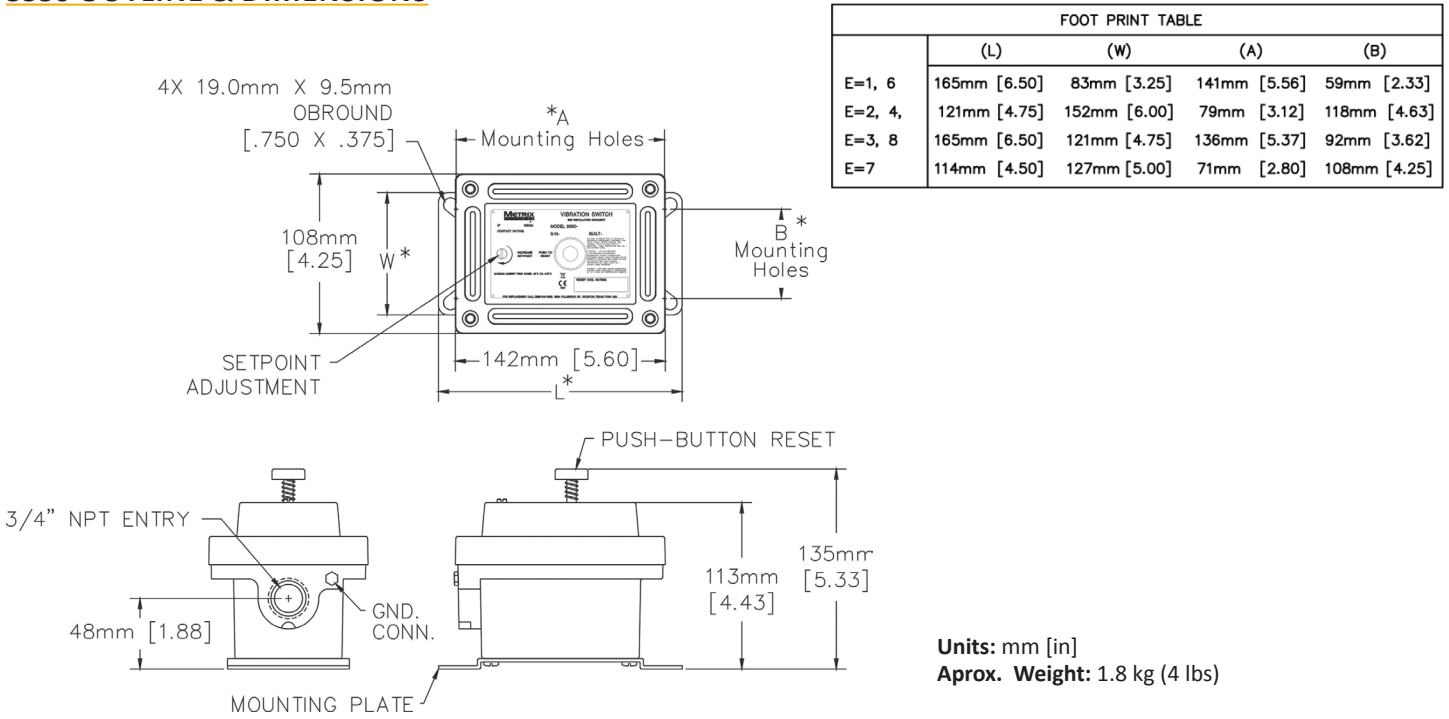
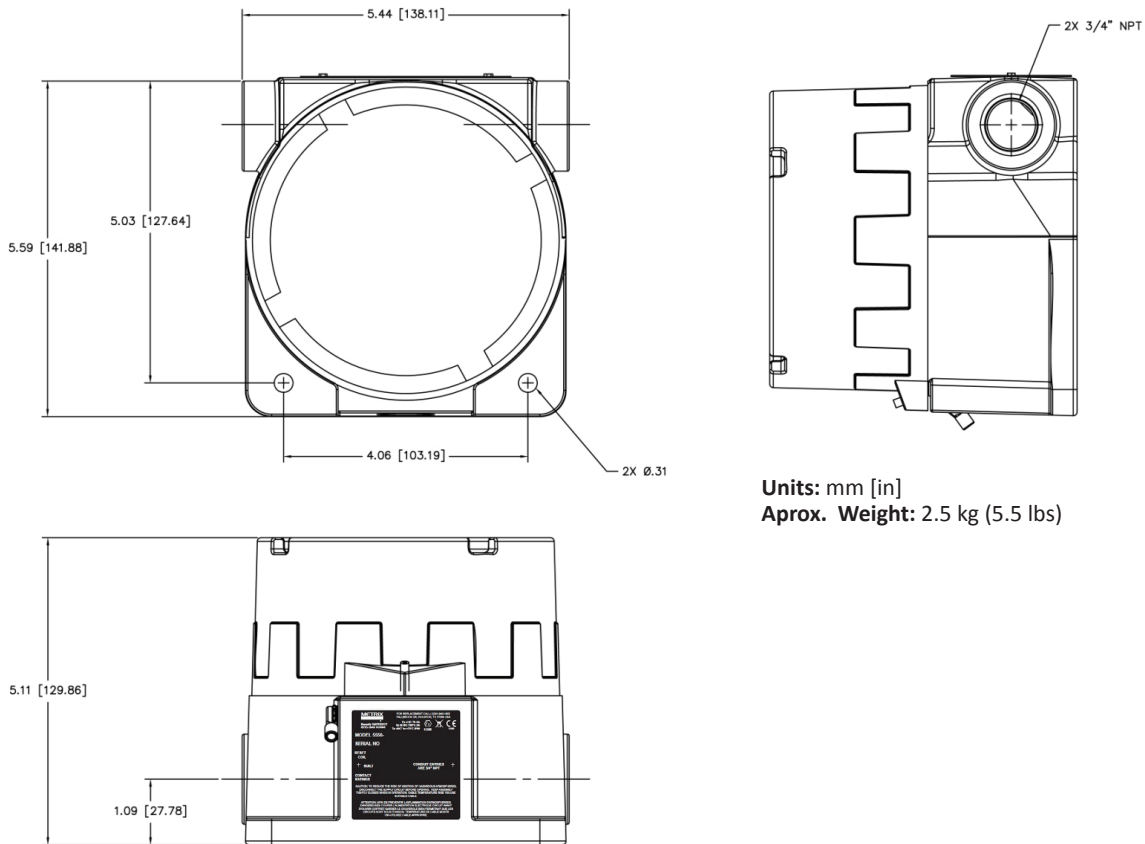

Figure 1 – 5550 Mechanical Vibration Switch
Figure 2 – 5550G Mechanical Vibration Switch
- When options C=2 and D=3 are simultaneously specified (2g, 24Vdc reset coil), the switch sensitive axis (see Figure 1 for 5550 and Figure 2 for 5550G) MUST be oriented vertically with the cover facing up. This coil lacks sufficient holding strength to support the trip plate when the switch is mounted horizontally or upside down. The switch may be mounted at any orientation for all other options.
- Consult Figure 1 for mounting plate dimensions corresponding to E options.
- Consult Figure 2 for mounting dimensions.